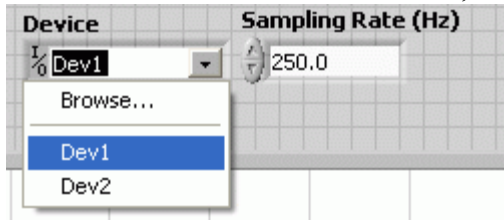

Figure 6: Selecting correct device.
2. Ensure the correct *Device* is chosen, as shown in Figure 6.